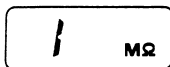

Fig 1
4. The built-in batteries are normal if the INSUL. TEST VOLT ON indicator (red LED) lights up and the LCD looks as shown in Fig. 1.
4. When the measurement object has resistance of more than 200MΩ at 500V or 20MΩ at 15V, the LCD shows the same over-input display as that displayed when the measuring terminals are open, as shown in Fig. 1 under section [4]4-2, “Checking the Built-in Batteries” on page 5.